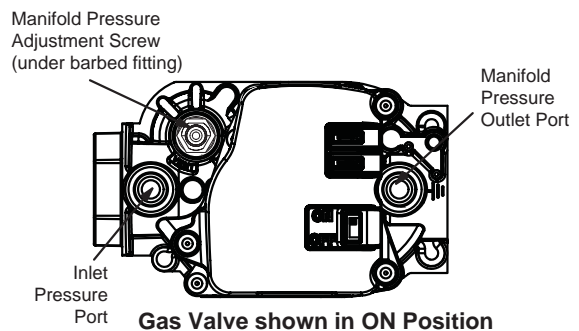

Figure 52.
Gas Valve Operation (Figure 52)
- 6 - Move gas valve switch to OFF. See **Figure 52**.
- 8 - Move gas valve switch to ON. See **Figure 52**.
When testing supply gas pressure, use the 1/8" N.P.T. plugged tap or pressure post located on the gas valve to facilitate test gauge connection. See **Figure 52**. Check gas line pressure with unit firing at maximum rate. Low pressure may result in erratic operation or underfire. High pressure can result in permanent damage to gas valve or overfire.